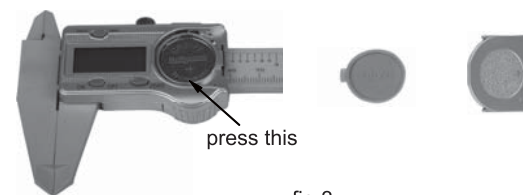

fig.3
- Press the battery(fig.3) and the battery comes off the battery house